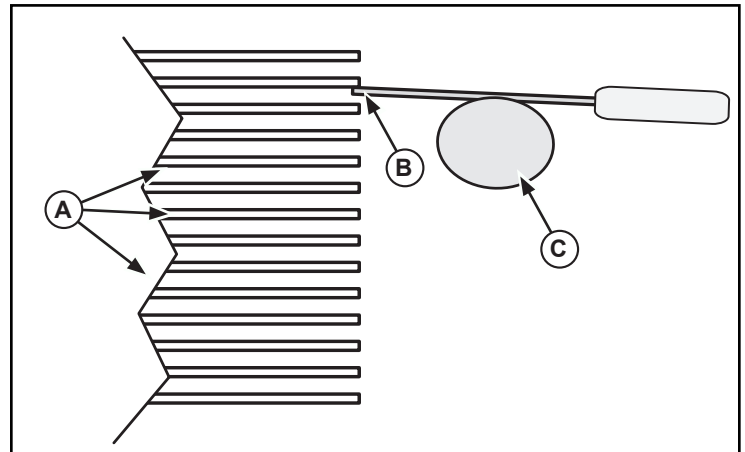

Figure 6. Adjusting the Pusher Head Fingers
- Hold a thin flat tool (B) on the pusher finger(s) that require adjustment. Tap the tool (B) with a mallet or similar tool. Use caution not to disrupt or make contact with another finger or to scratch the anodized surface of the pusher fingers. See Figure 6.